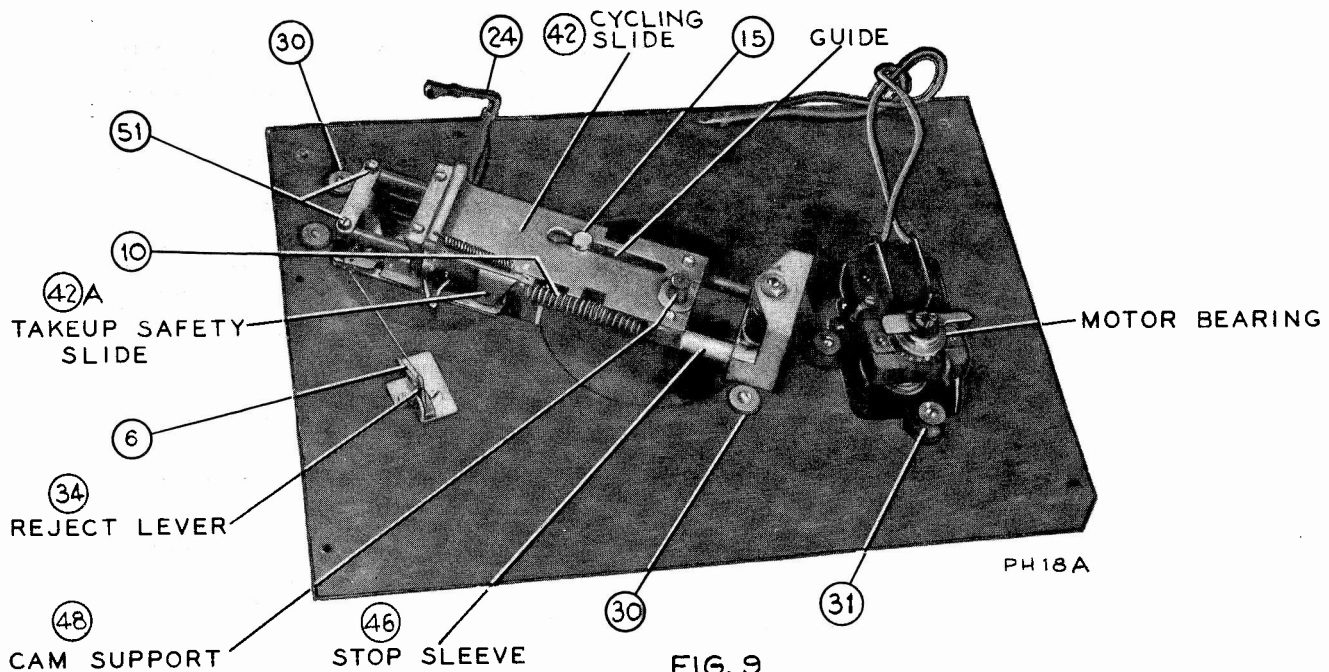

FIG. 9
(1) Rumble
- (A) Remove motor assembly (mounting bolts, fig. 9) and inspect rubber tire idler for rough spots.
- (B) Make certain rubber shock supports on drive motor and mechanism are not drawn up too tight.
- (D) Check for microphonic tube in amplifier.
- (A) With mechanism out of cycle remove motor assembly (bolts, fig. 9) and examine rubber drive idler and rim of turntable for grease or oil. (Oil or grease can be removed with carbontetrachloride or naphtha.)
- (B) Check for bent motor shaft.
- (C) Check for bent motor mounting plate.
- (D) Check for irregularity in rubber tire idler.
- (E) With the drive motor removed, the turntable should rotate freely when turned by hand. Bind in turntable may be caused by:
6. Cycling knurled drive roller (41) fig. (7) set too low on turntable shaft thereby acting as a thrust bearing and making the ball thrust bearing ineffective. Loosen adjustment screw "C" and allow turntable to seat on thrust bearing making certain steel and cork washers aren't missing. In positioning the knurled roller about $\frac{1}{32}$ inch vertical play should be allowed.